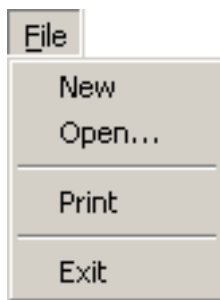

Figure 16. File menu.
- Left click on the 'File' menu (Figure 16) and click on 'Print' to print both the response surface and the virtual chromatogram.
- Left click on the 'File' menu (Figure 16) and click on 'New'. The Virtual Column 2 wizard should open.
- Left click on the 'File' menu (Figure 16) and click on 'Exit'.